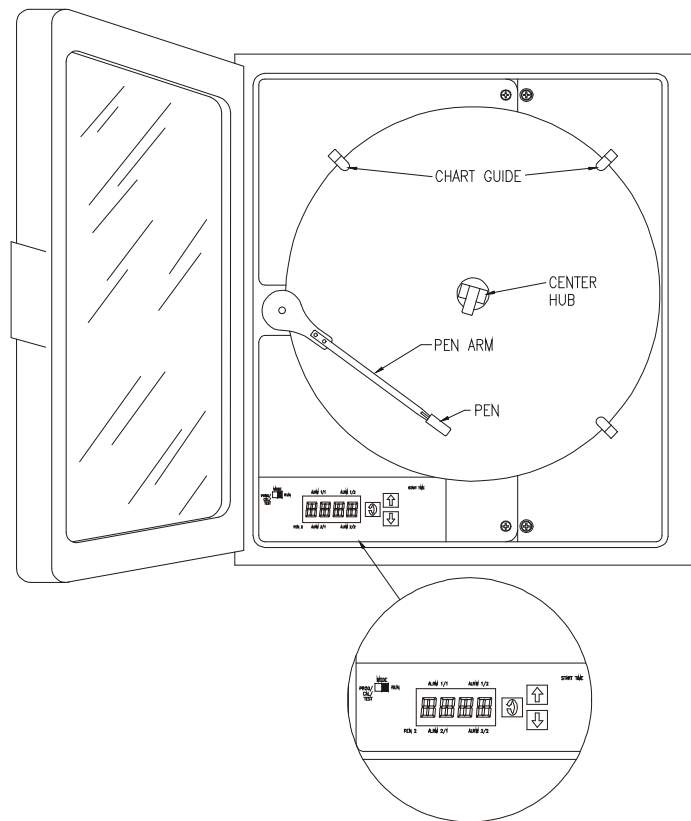

Figure 13 - Recorder Front with Potentiometers, etc. (ATI-0136)
To align the time graduations on the chart paper with the pen, a time index is located at the top outer rim of the chart plate (see Figure 13). Turn the outer rim of the chart hub using the chart guide pin. **DO NOT TRY TO MANUALLY TURN THE LARGE CHART DRIVE HUB OR DAMAGE TO THE DRIVE MAY RESULT.**
Recorder purchased with the digital display option may require two functions to be set using the programming keys located to the right of the display (Figure 13). The two functions that are set from this keyboard are the chart speed and the scaling of the display. Both of these are factory set, but adjustment may be needed if the desired chart speed or recorder range are different than the factory settings. When shipped from ATI, the chart speed will be set for 24 hour rotation. The digital display scaling will be set for 0-3.00 PPM for low range units and 0-10.00 PPM for high range units.
Once the sensor has had sufficient time to stabilize, the zero and span of the system must be set. Establishing a stable zero is critical to the proper operation of the recorder and should always be done before setting the span. The zero and span potentiometers used for adjustment are located on the chart plate to the lower left of the chart (see Figure 13). If your system was supplied with a remote chlorine amplifier, the zero and span potentiometers will be located on the remote amplifier and you will need a DVM to read the test point voltage in order to calibrate the system.
2. Using the span potentiometer (see Figure 13), adjust the chart pen value (or the digital display on the recorder, if installed) to the percentage of scale calculated from the % of Chart Reading equation below. If your unit is supplied with a remote transmitter, use the Test Point Voltage equation to calculate the proper voltage at the test points of the transmitter. The transmitter output is between .040V and .200 V, proportional to span at the test point.